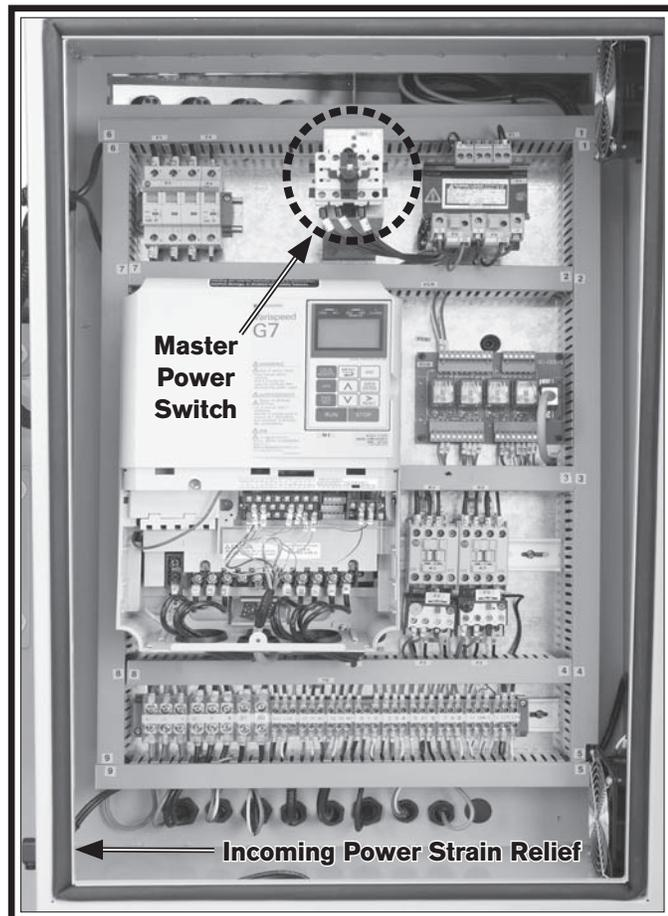

Figure 22. Electrical cabinet.
2. Refer to **Figure 22** to identify the master power switch and the hole at the bottom left of the electrical cabinet for the incoming power.